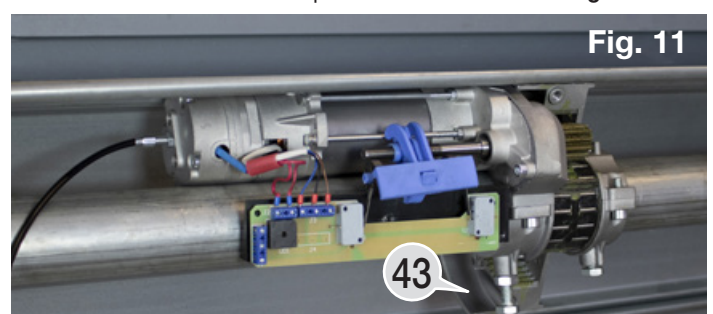

Fig. 11
- Insert the rubber needle bearing "28" into its housing in the crown wheel "27". Fit the first half crown wheel "27" to the geared motor and rotate it until it reaches position "43" as shown in fig. 11.